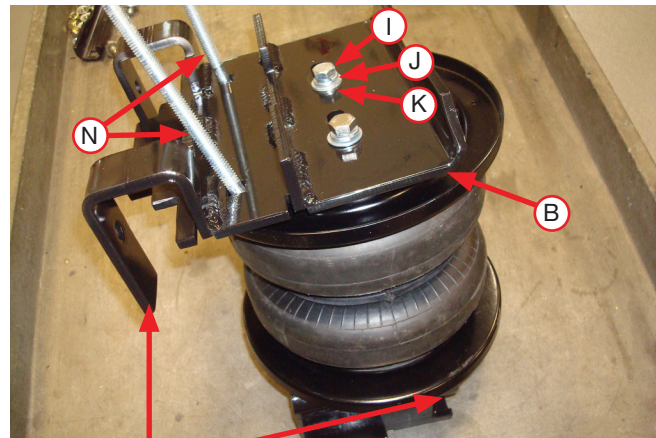

Fig. 7
3. Flip the assemblies over and adjust the roll plates position for mounting hole access. Insert two 3/8" carriage bolts (N) down through the top of the lower bracket (B) as shown (Fig. 7). Install the lower bracket onto the assemblies making sure the flange on the lower bracket is opposite of the fitting on top of the air spring. Attach with 3/8" hex head cap screws (I), lock washers (J) and flat washers (K). Tighten hardware finger-tight only.